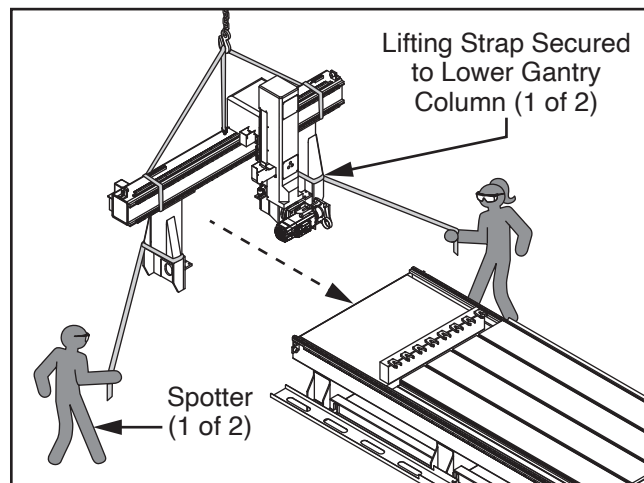

Figure 31. Gantry secured and positioned behind CNC router base.
5. Lift gantry until it is standing upright, then wrap (1) additional lifting strap around lower gantry column on each side (see **Figure 31**).
6. Have spotters/installers hold on to lifting straps attached in **Step 5**, lift gantry until it clears CNC router base, then slowly move gantry into position towards rear of base (see **Figure 31**).